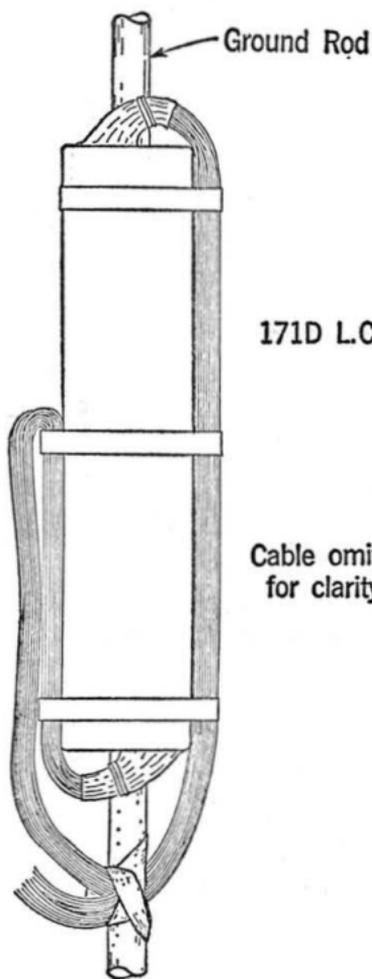
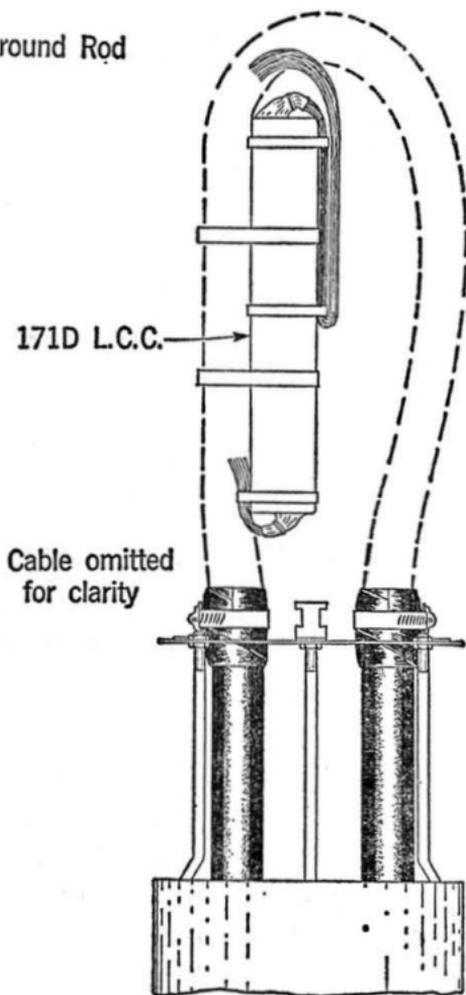

Fig. 6
Fig. 7
3.02 When loading with the 171 type L.C.C., set up for splicing as shown in Fig. 6. When splicing is completed, secure the case to the main cable with paper tape or cotton sleeving as illustrated in Fig. 7.